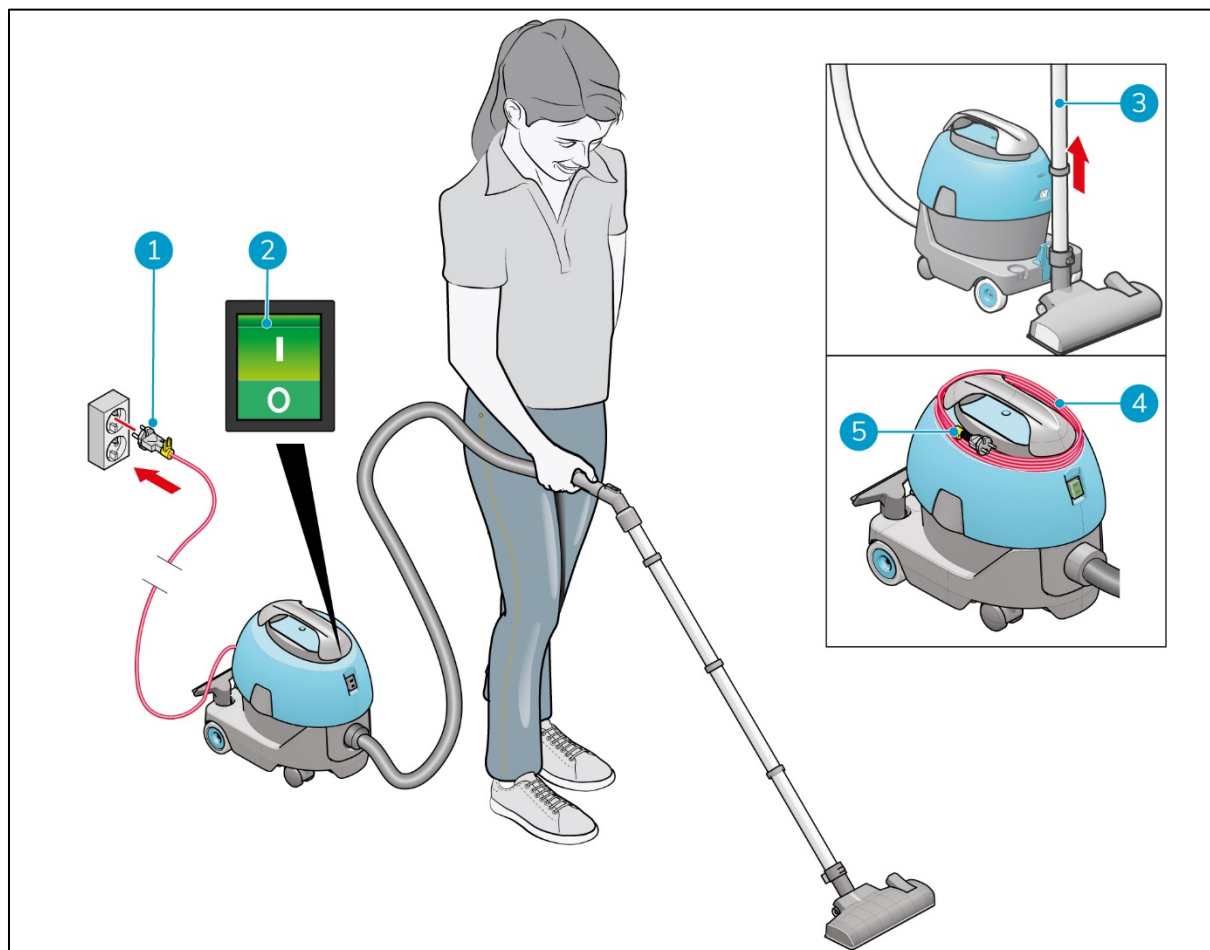

Figure 17
1. Put the main power cable into the wall socket (Figure 17, pos 1).
2. Press the ON/OFF switch (Figure 17, pos 2) to start the i-vac 5®. The green light in the ON/OFF switch will go .
3. Take the wand from the holder (Figure 17, pos 3).
1. Press the ON/OFF switch (Figure 17, pos 2) to switch off the i-vac 5.
2. Remove the main power cable from the wall socket. (Figure 17, pos 1).
3. Wind the main power cable around the head of the i-vac 5 (Figure 17, pos 4).
4. Place the yellow cable clamp (Figure 17, pos 5) over the cable.
5. Place the wand back in the holder (Figure 17, pos 3).